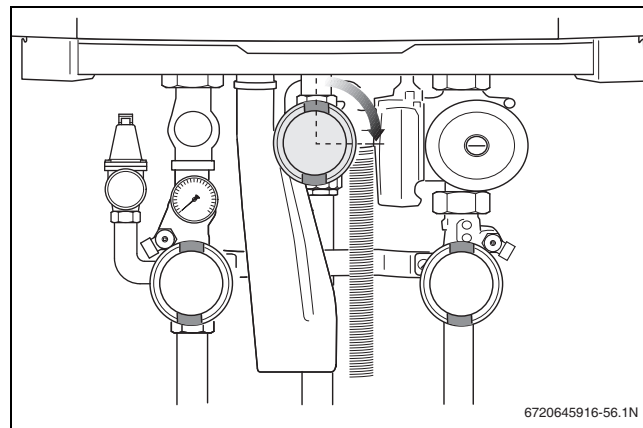

Fig. 60 Closing the gas valve
- Close the gas valve (→ fig. 60).
- Close the gas shutoff valve when no more air is present (→ fig. 60).